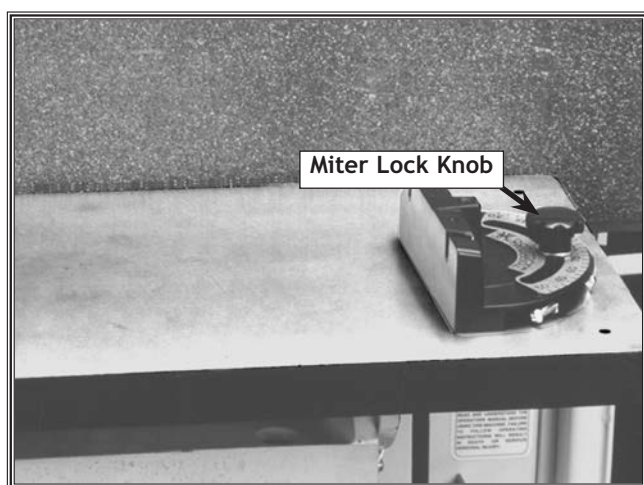

Figure 19. Miter gauge installed.
3. Secure the miter gauge to the table using the miter lock knob as shown in Figure 19.